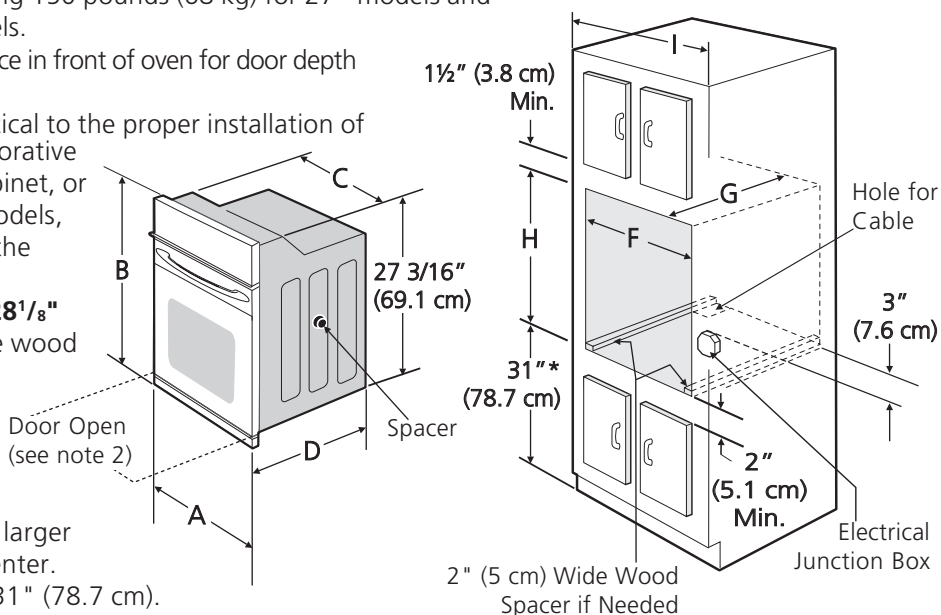

Figure 1
27" AND 30" DOUBLE OVENS (Single Ovens see Figure 1)
Refer to figure 1 or 2 for the dimensions applicable to your appliance, and the space necessary to receive the oven. The oven support surface may be solid plywood or similar material, however the surface must be level from side to side and from front to rear.
3. These appliances should be connected to the fused disconnect (or circuit breaker) box through flexible armored or nonmetallic sheathed cable. The flexible armored cable extending from the appliance should be connected directly to the junction box. The junction box should be located as shown in Figure 1 or Figure 2 and with as much slack as possible remaining in the cable between the box and the appliance, so it can be moved if servicing is ever necessary.
Oven height can be adjusted with 2" (5 cm) wide wood shims when needed to fit into an existing cabinet cutout opening, when cutout height exceeds **28¹/₈" (71.4 cm)** for the single wall oven or **49¹/₂" (125.7 cm)** for the double wall oven (see Figure 1 or 2). Place shims of appropriate height beneath the oven side rails.